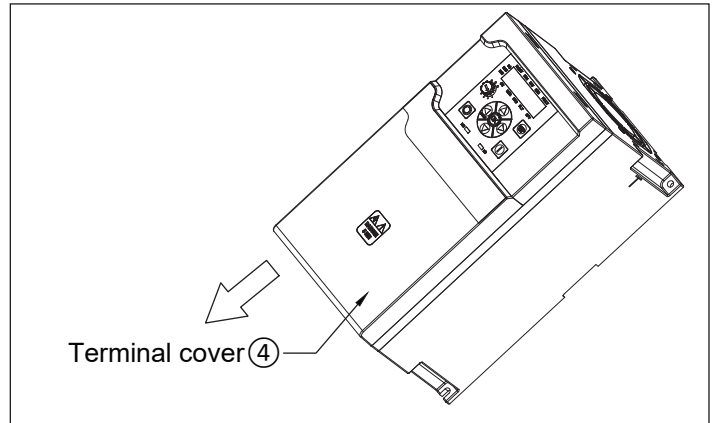

Figure 15. Removing the terminal cover.
Remove the terminal cover ④ (see Figure 15).